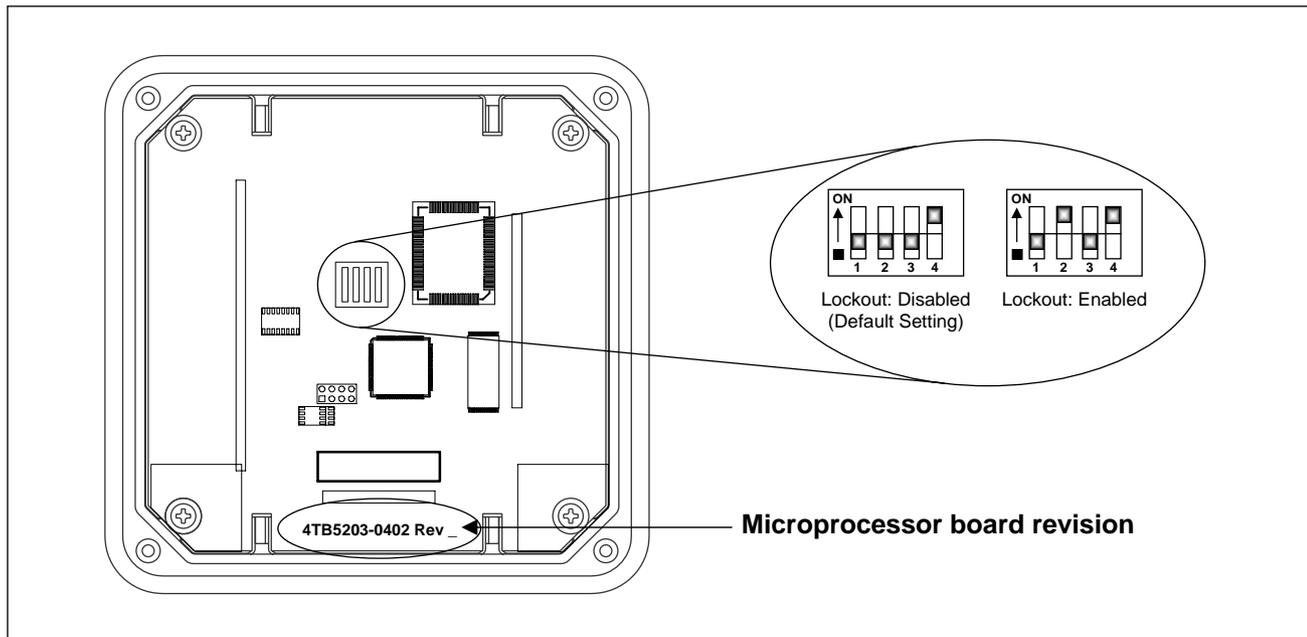

Figure 3-4 Lockout switch
When using a HART communication device, an enabled lockout prevents access to Universal, Common Practice and Device Specific Commands that write to the device and will generate a Write Protect error. See Appendix A, HART Commands, for a list of supported commands. See Figure 3-4 for Lockout Switch location and settings.
3. Verify the Microprocessor Board (Part Number 4TB5201-0182) is Revision F or higher, refer to Figure 3-4. If the Microprocessor Board needs to be replaced, skip to Section 6.3